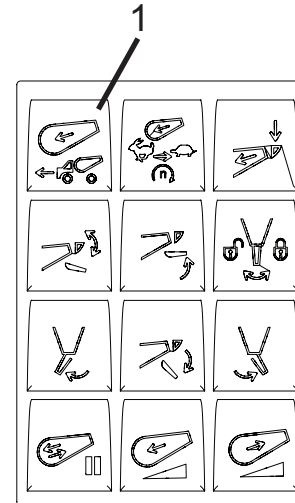

Figure 40
1. To manually engage CONSTANT SPEED mode, press the CONSTANT SPEED button on the optional in-cab keypad (Figure 40, Item 1). The button indicator will illuminate when mode is selected. All other mixer drum inputs are disabled while this mode is activated.